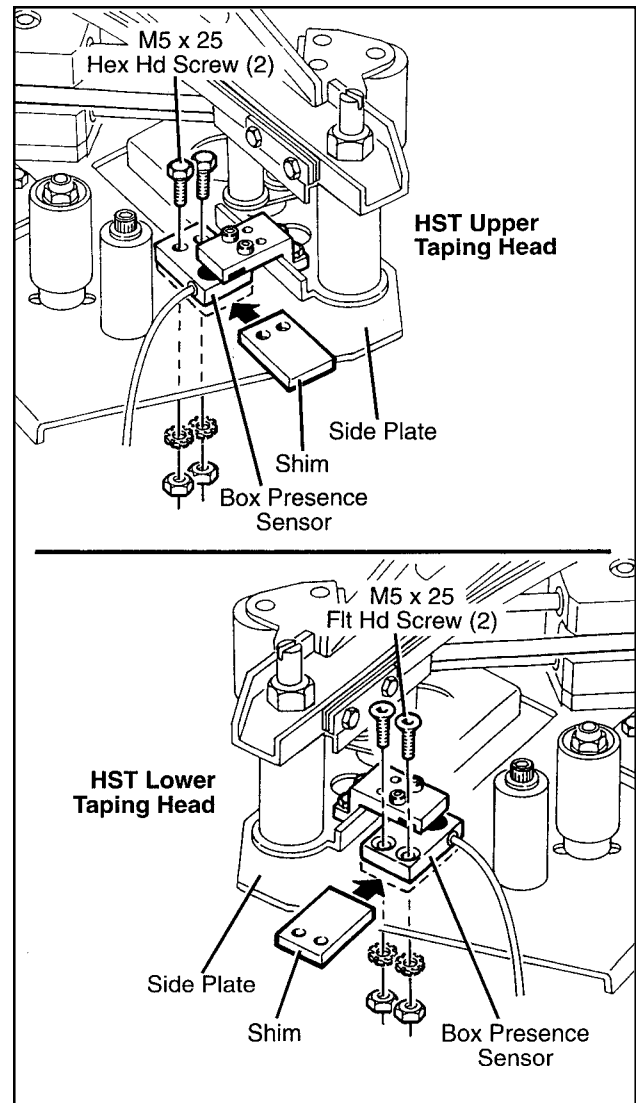

Figure 2-19
- Slip the .190 inch [4.8 mm] thick shim (provided in kit) between box presence sensor and large side plate and attach sensor to side plate with two M5 x 25 hex head capscrews and nuts as shown in Figure 2-19. **Capscrews should be inserted through sensor with nuts and external tooth lock-washers on back of side plate.** Snug tighten the M5 mounting screws. Remove the two M3 capscrews securing magnet holder and box presence sensor together. Firmly tighten the M5 mounting screws.
**Note – Lower Taping Head.** Because of interference problems, customer must countersink holes in Box Presence Sensor and then install sensor with (2) M5 x 25 flat head, socket drive screws. (Do not countersink any deeper than required to accept heads of screws.) See Figure 2-19, HST Lower Taping Head.